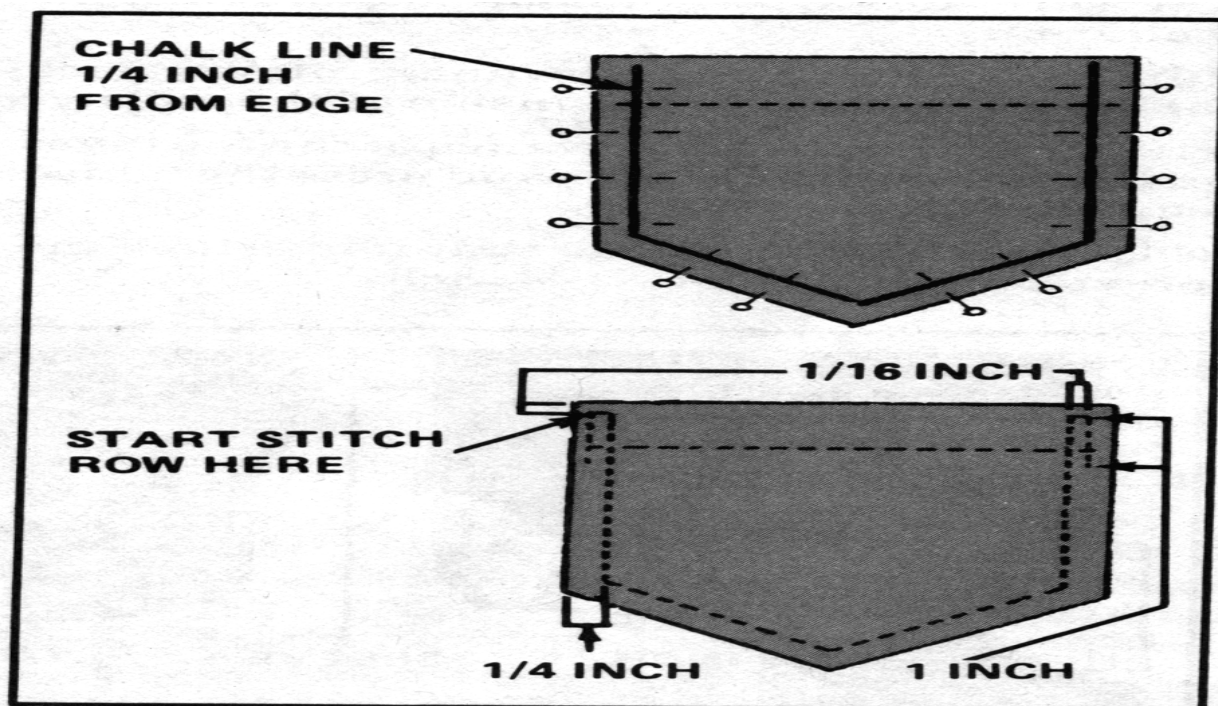

Figure 4-20. Replacing a patch pocket
- a. Replacing a Patch Pocket. To replace a patch pocket (Figure 4-20)--
- (1) Remove the damaged pocket by cutting through all the stitches holding it in place. Do not cut the underlying fabric of the garment. Clean away all loose threads. Place the garment faceup on the worktable.